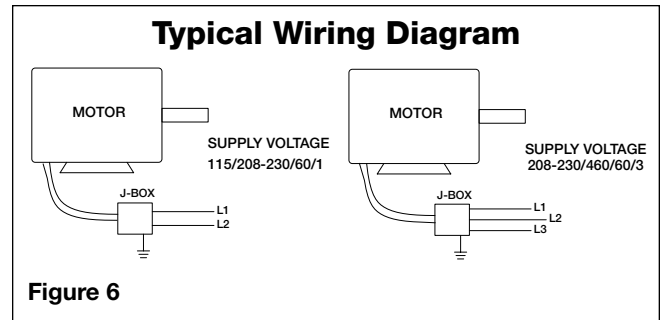

Figure 6
11. Mount and wire safety disconnect switch under motor cover. Wire control switches at ground level, refer to Figure 6.